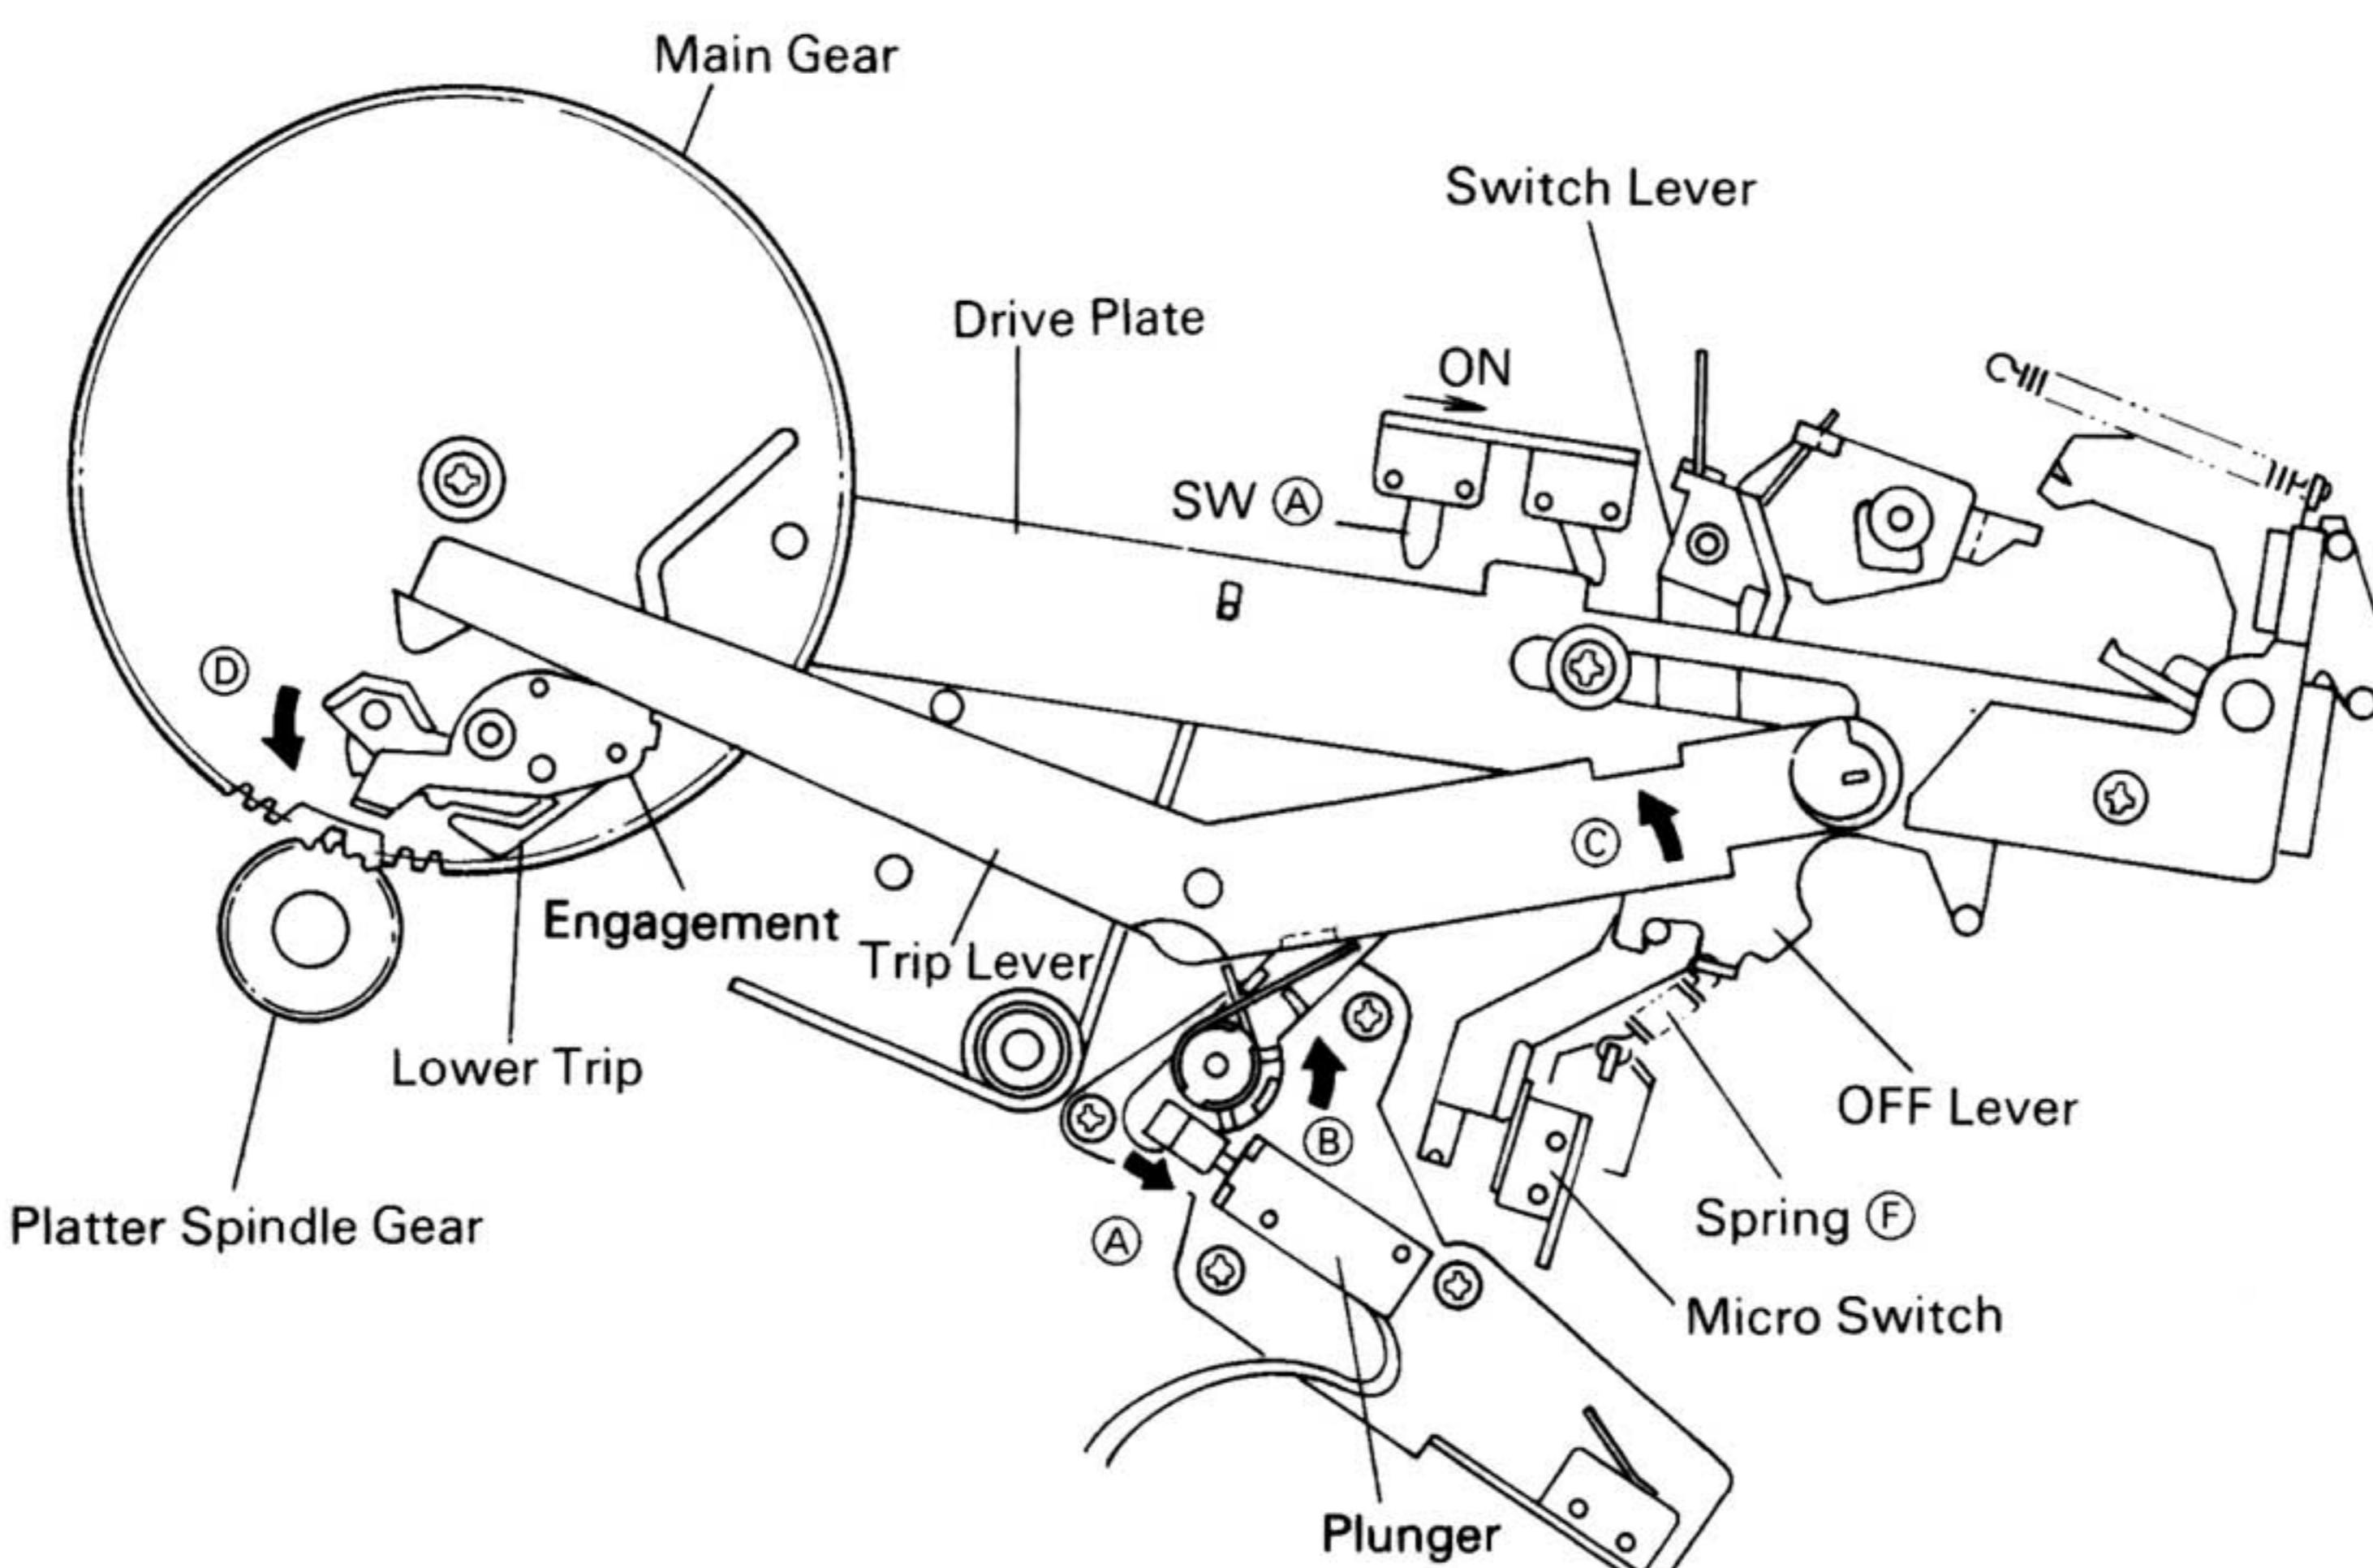
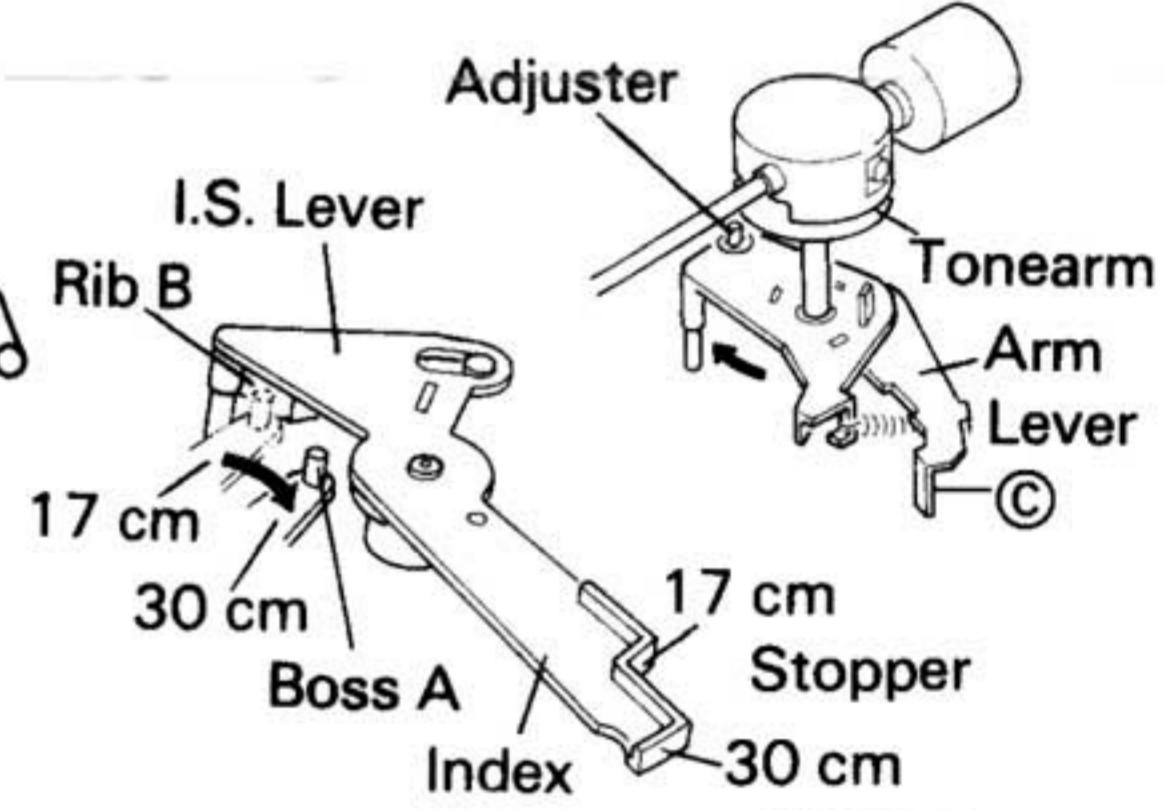

Fig. 1
Fig. 6
As the trip lever moves the engage in the direction of (D) and the platter spindle gear and main gear are engaged, the change cycle is started and the lead-in operation starts. (Fig. 1)
When the size of the record is 17 cm, as the plunger is pulled until switch A turns ON, boss A remains in the 17 cm record mode. (Fig. 1) (Fig. 6)